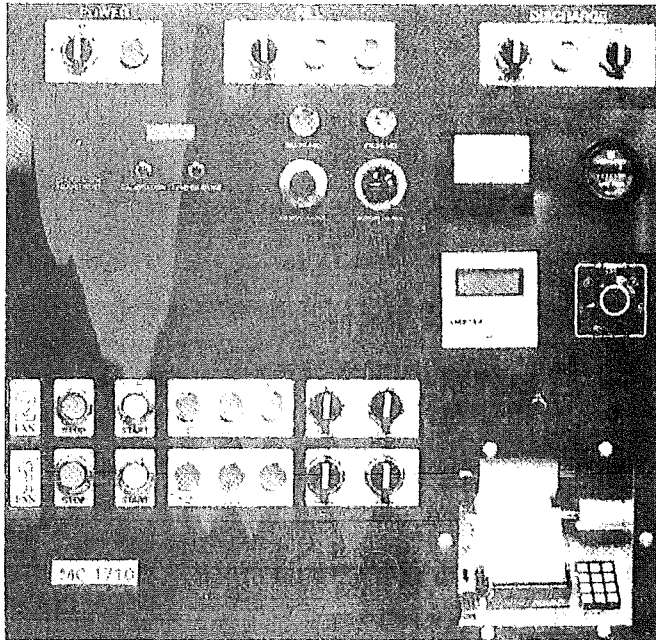

Figure 27
10. The SCR Drive Speed Control Dial, Figure 27, is graduated from 0 (slow) to 10 (fast). Use the Grain Metering Roll Discharge Rate Chart, Figure 29, as a guide to set the SCR Drive Speed Control.